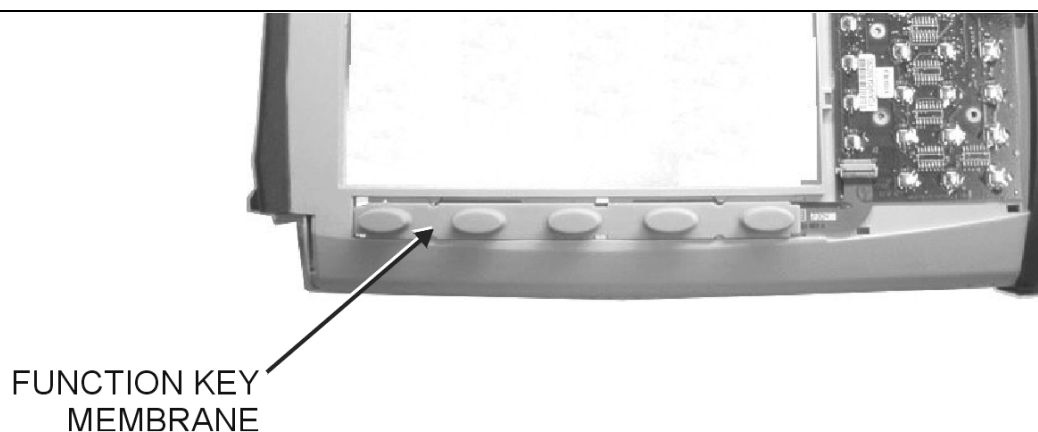

Figure 23. Function Key Membrane
4. Remove the function key membrane by gently pulling the membrane up and away from the front panel (Figure 23).